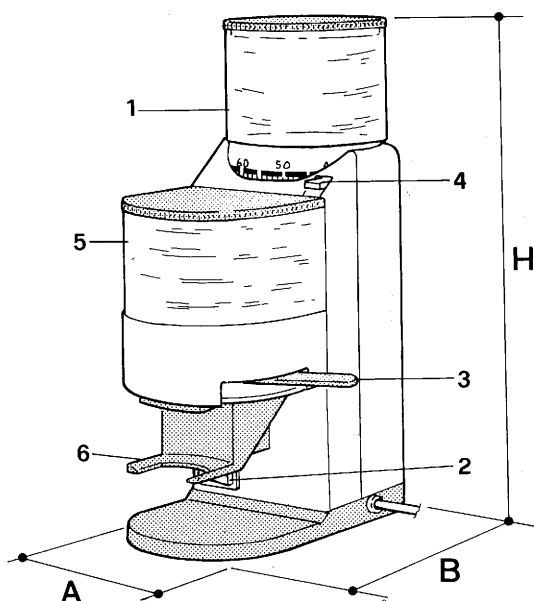

Fig.3
In the bean container 1 Fig. 3 a protection is fixed with screws to protect your hands when filling and cleaning the bean container.
#### Legend Fig. 3:
- Turn off switch 2 Fig. 3 and unplug the machine.